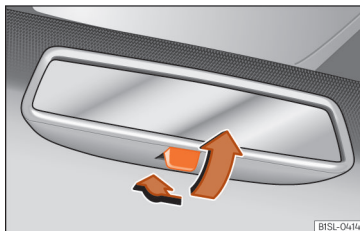

Fig. 117 Manual anti-dazzle function for rear vision mirror
- Pull the lever to the back to select the anti-dazzle function »» Fig. 117.